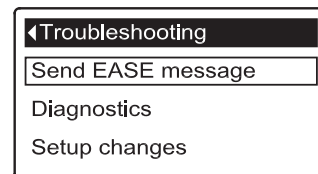
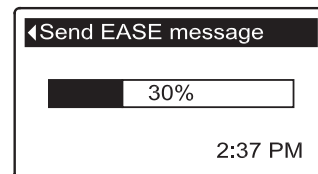

FIG. 86
FIG. 87
5. Press the SELECT (O) button to display the Troubleshooting menu (See Figure 86).
9. A bar is displayed showing the transmission’s progress (See Figure 87). Once completed, the Troubleshooting screen immediately reappears (Figure 86).